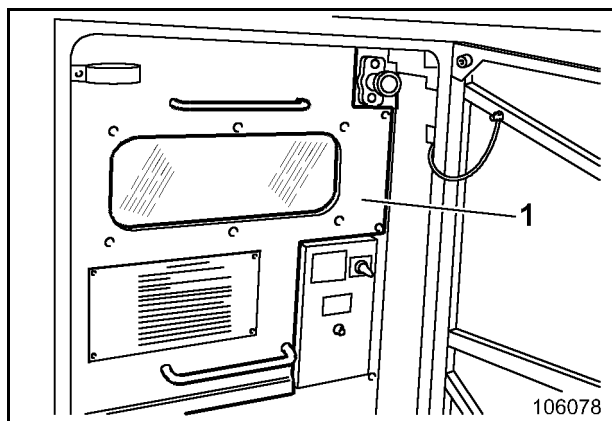

Fig. 3-1:
- Remove the cover (1, Fig. 3-1:).